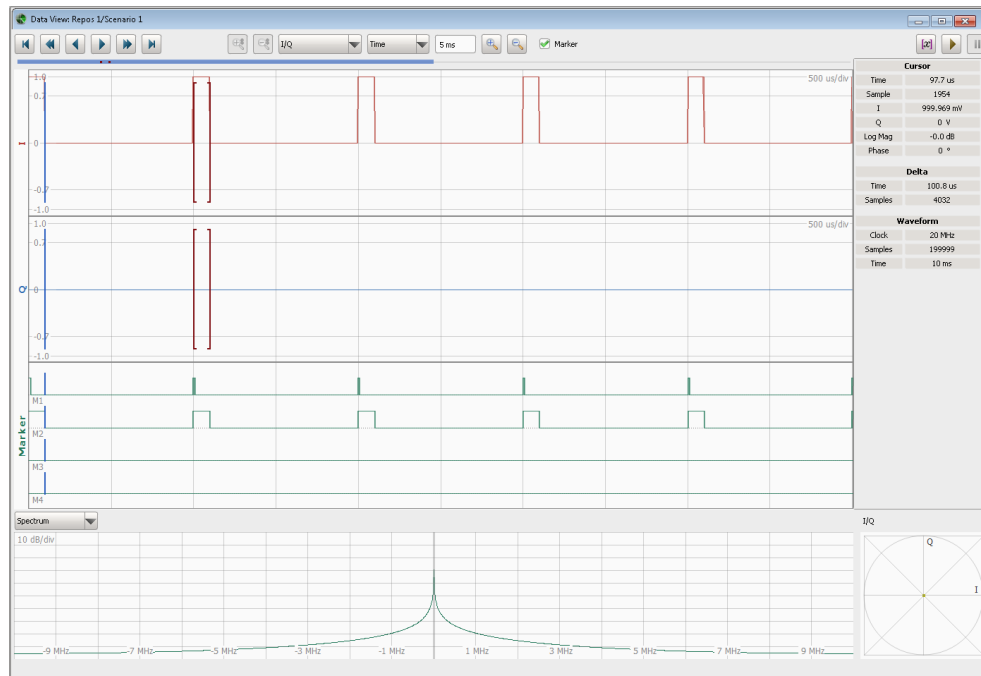

Figure 3-3: Data View: Sequence composed of 10 unmodulated pulses (first 5 pulses shown)
6. Compare the signal spectrum with the spectrum on Figure 3-3.